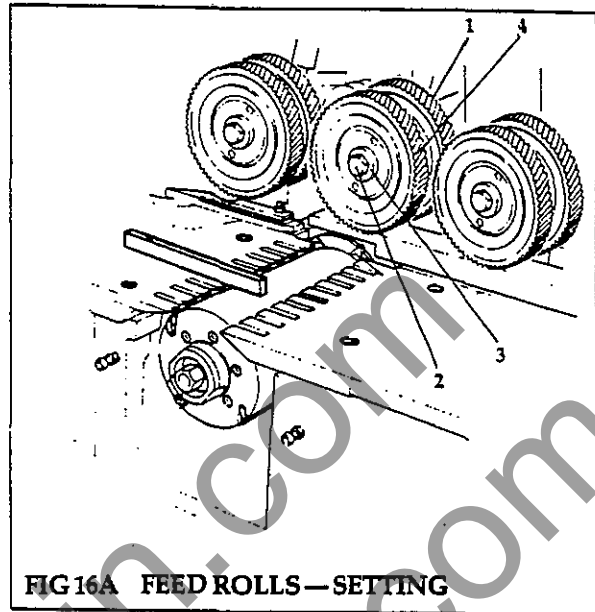
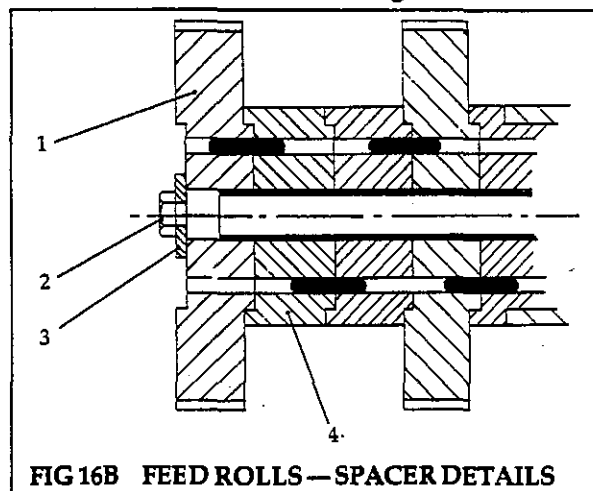

FIG 16A FEED ROLLS—SETTING
FIG 16B FEED ROLLS—SPACER DETAILS
Set Feed Rolls (Fig 16A, Fig 16B)
apart (Fig 16A), rather than having a solid bank of feed rolls.
- a. Slacken centre screw (2), using a 19mm A/F spanner.
- b. Remove 'C' washer (3), add or remove rolls, or spacers (4), to suit width of stock (Fig 16B) ensuring that each roll drive pin engages with its mating part.
- c. Refit 'C' washer (3) and retighten centre screw (2).
- (2) Set feed roll height 3mm lower than thinnest workpiece to give a positive drive.
- (3) When set up, inch timber through the machine to check the setting and switch off.